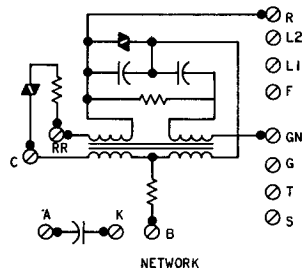

Fig. 1—2660A1M Telephone Set, Connections
**1.01** This section contains connection information for the 2662A1M telephone set (Fig. 1). For additional information refer to Sections 502-600-102 and 502-603-131. For 4A speakerphone connections, refer to Section 512-730-455.